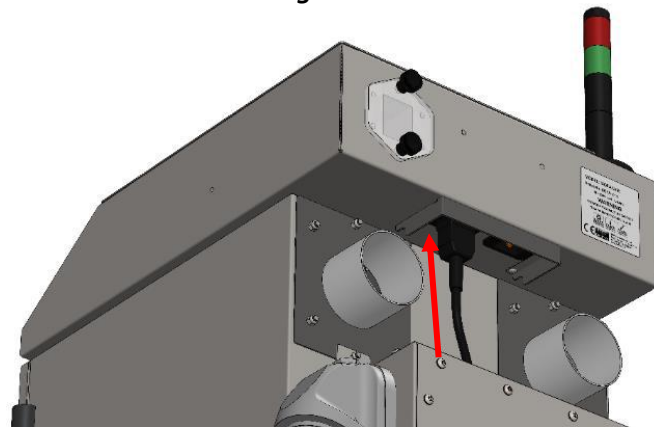
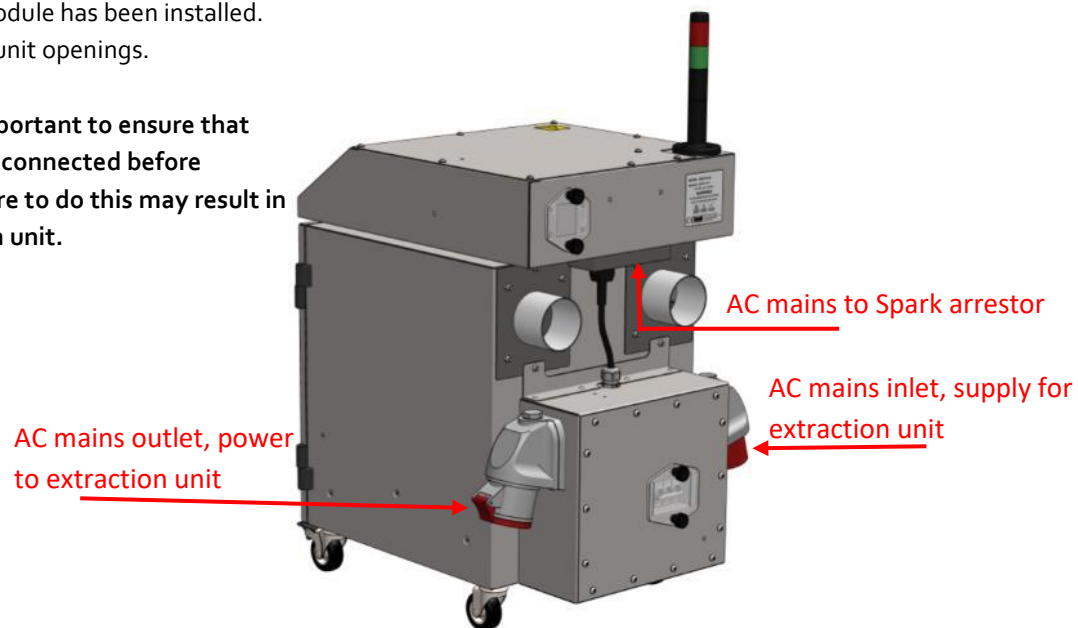

Figure 2
Figure 3
5. Connect the power cable from the module to the spark arrestor (see figure 2), and then the power lead from the BOFA extraction unit to the spark arrestor (see figure 3).